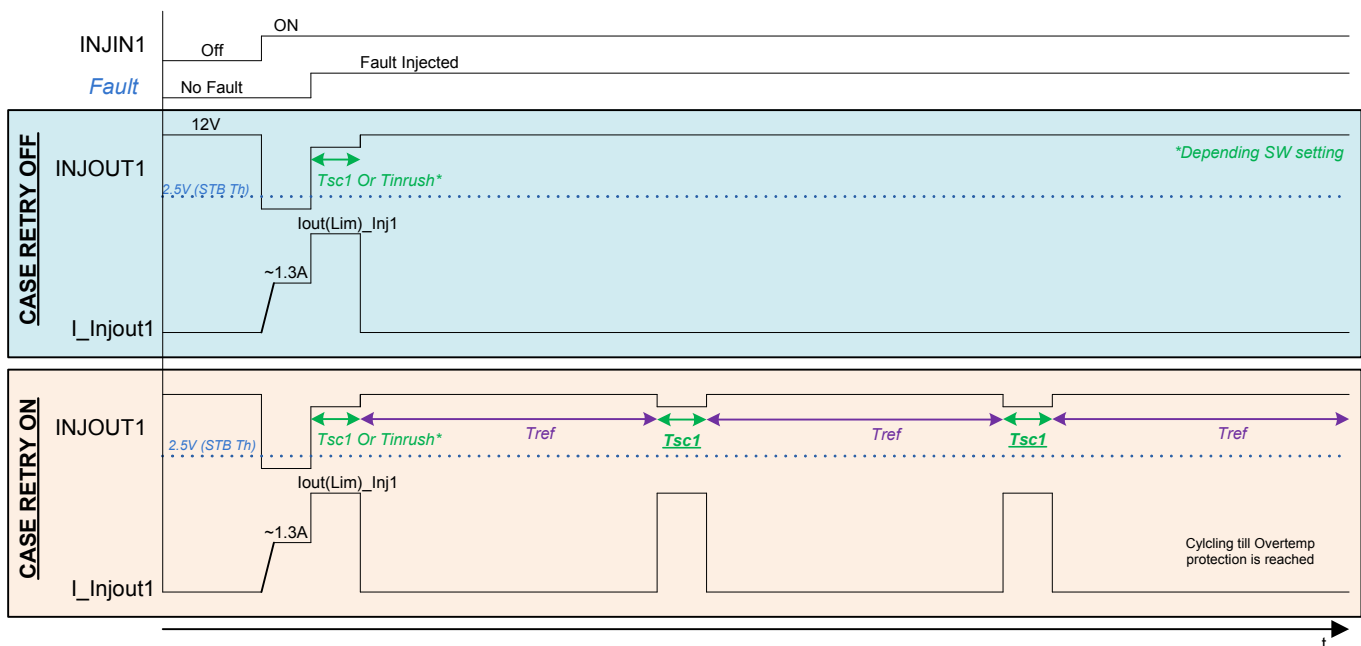

Figure 16. Retry and Inrush feature
When the Retry feature is enabled (Retry Bit for each output) during an overcurrent condition at the end of the Inrush period, the output device turns off and waits until a delay time ( $t_{Ref}$ ) has passed. After this off time, the output tries to turn on again. If the short is still present, the process starts again. This on/off cycling continues until the output is shut off by command or the overtemperature (OT) on the output device is reached. Note that the Inrush delay resets to its default state for this on/off cycling. See Figure 16.